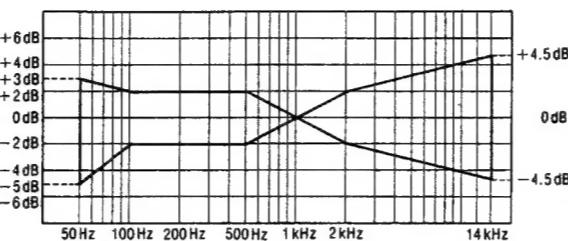

Fig.9
- Assure that the level is within the range shown in Fig.9.